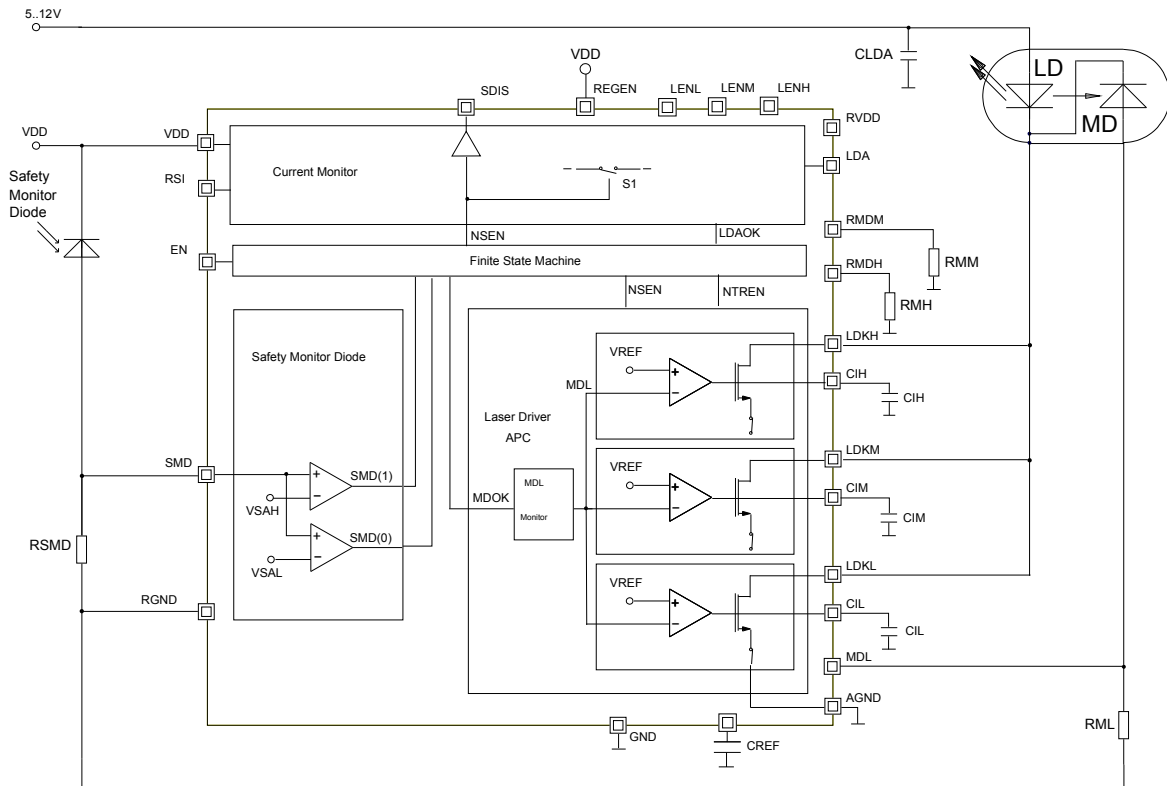

Figure 17: Driving blue laser diodes
*e/s*. Figure 17 shows iC-NZ connected up to a blue laser diode. It is important to note that here the laser diode supply voltage should be as low as possible to keep iC power dissipation to a minimum.